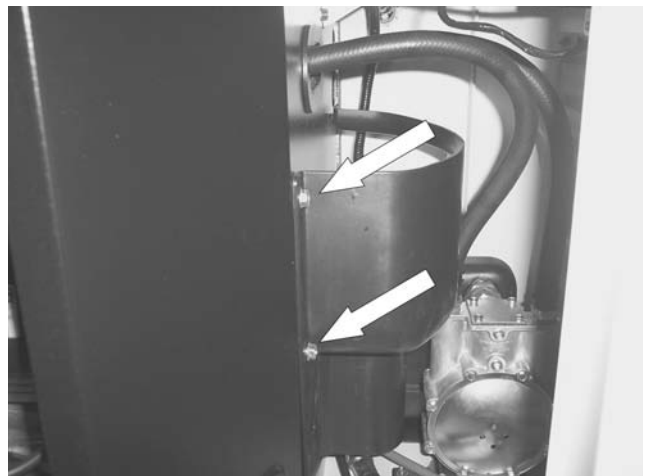

Figure 170.
7. **Remove engine intake baffle:** Using a 10mm socket remove the two bolts from the engine intake baffle. Pull baffle toward you carefully, there are tabs holding the backside of the baffle to the divider panel. See Figure 170.